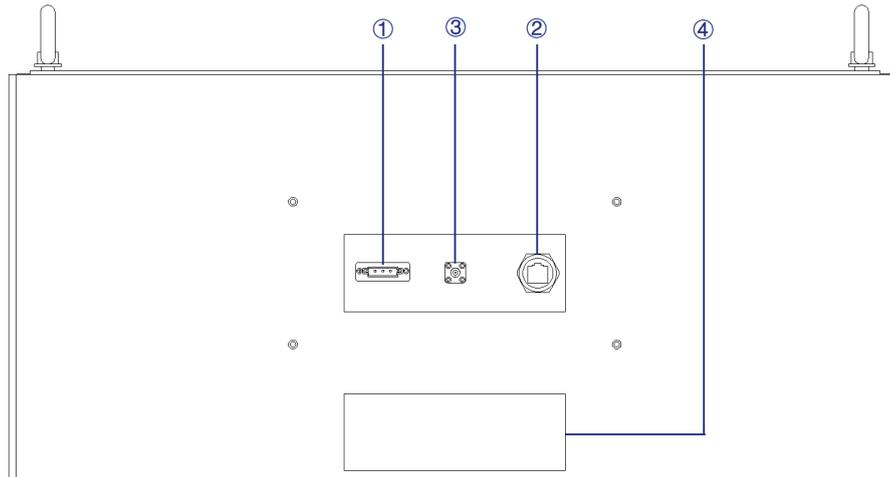

Figure 1-15 Rear panel of power supply
The ATI interface is located on the rear panel of power supply (Figure 1-15 ③).